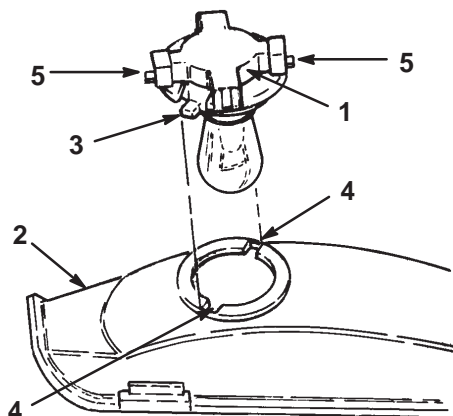

Figure 49
3. Rotate the bulb holder 1/4 turn counterclockwise and remove it from the reflector (Fig. 49).
2. The bulb holder has two tabs (Fig. 49). Align the tabs with the slots in the reflector, insert the bulb holder into the reflector and rotate it 1/4 turn clockwise until it stops.